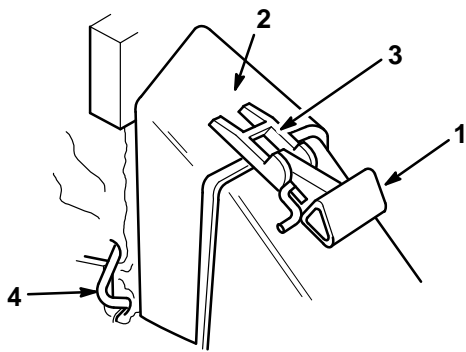

Figure 6
2. Ensure that the discharge door handle is fully forward (door closed) (Fig. 6).
3. Fit the bag door opening over the discharge tunnel opening as shown in Figure 6.
2. Lift the door latch until it clears the bag notch and move the discharge door handle forward (Fig. 6).